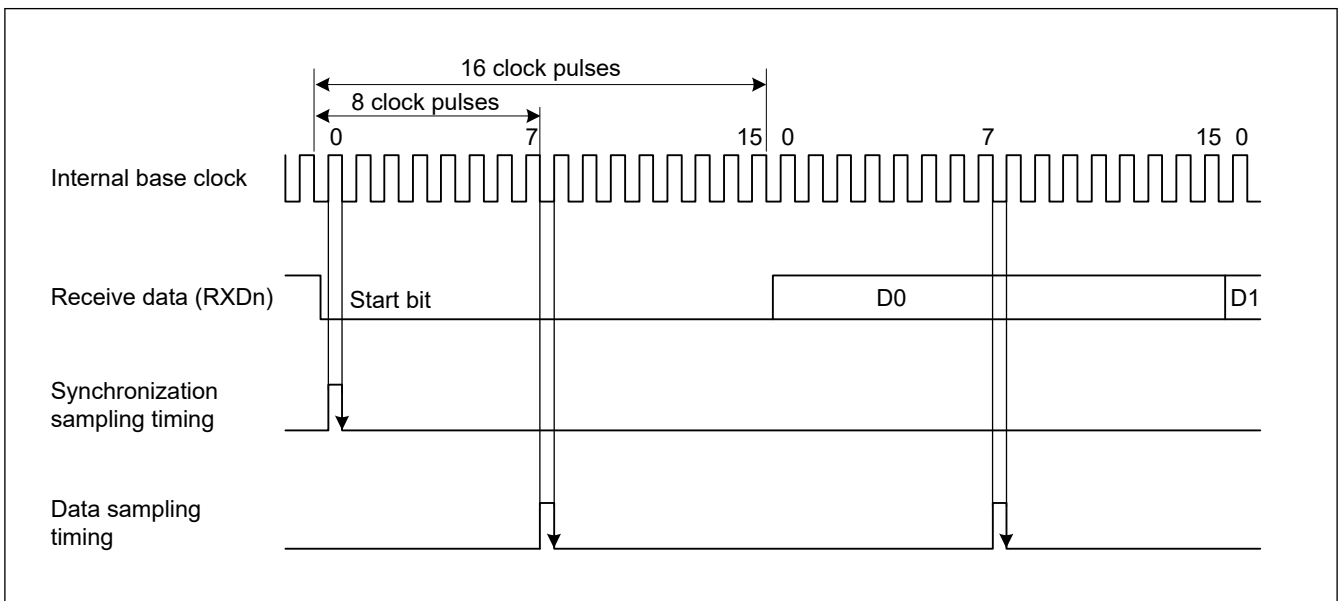

Figure 26.3 Receive data sampling timing in asynchronous mode
Because receive data is sampled on the rising edge of the 8th pulse*1 of the base clock, data is latched at the middle of each bit, as shown in Figure 26.3. The reception margin in asynchronous mode is determined by the following formula (1):